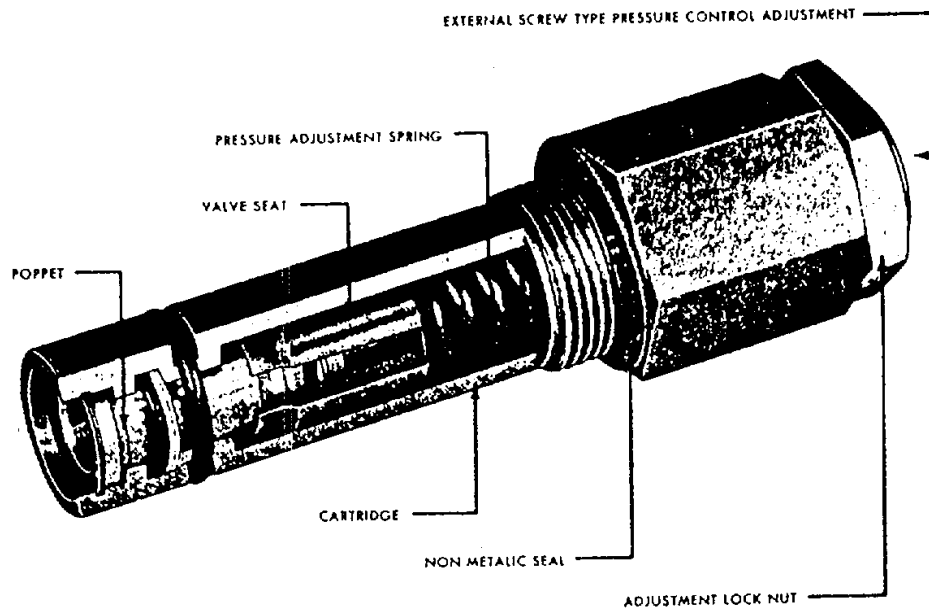

Figure 6-21. VALVE SECTION DISASSEMBLY INLET
2. Overhaul procedure for inlet valve section, (see Figure 6-19). To disassemble, remove plugs from working ports. Remove relief cartridge from body assembly by unscrewing the complete cartridge from body, (see Figure 6-21). Remove all O-Rings. Clean both mounting faces using fine emery cloth. Clean body with solvent and blow dry with compressed air.